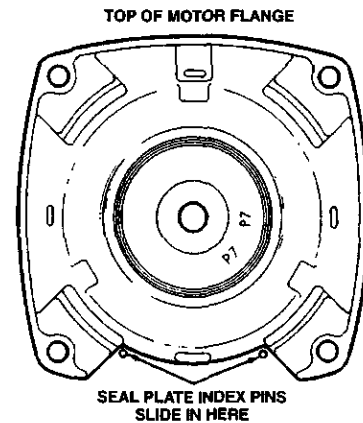

Figure 10A
- Reassemble seal plate to motor flange. **BE SURE** it is right side up: index pins should be down; seal plate is marked at top. See Figures 10A and 10B.